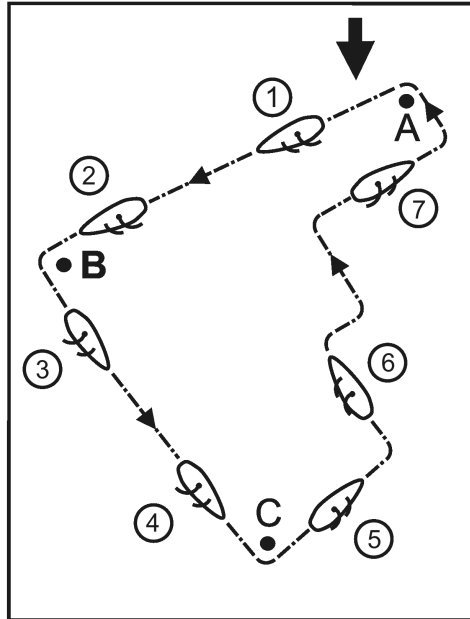

Figure 15
Figure 15 briefly explains the basics of sailing manoeuvres for a square trip in a few brief words. The information in the chapter „Angle of Attack of the Sails to the Wind“ is helpful here as well.
Start in point A at about 45° side wind (for wind direction, see arrow). The rudder is set to neutral. The angle of attack of the sails is about 20° (figure 15, item 1).
Just before you turn to the left by 90° at turning point B, you need to slowly „pull“ the sails (reduce the angle to the longitudinal direction of the boat). The rudder is still set to neutral (figure 15, item 2).
Once the longitudinal direction of the boat is aligned in the direction of point C (figure 15, item 3), set the rudder back to neutral. For best sailing performance, you can enlarge the angle of attack of the sails a little again until the next turn (open sails again).
Just before you turn to the left by 90° at turning point C, you need to slowly „pull“ the sails (reduce the angle to the longitudinal direction of the boat). The rudder is still set to neutral (figure 15, item 4).
Once the longitudinal axis of the boat is aligned (laterally offset) in the direction of point A (figure 15, item 5), set the rudder back to neutral. For best sailing performance, you can enlarge the angle of attack of the sails a little again until the next turn (open sails again). Make sure that the sails do not break in or flutter.
To return to the starting point A, you need to drive „into the wind“ at a zigzag. It is important that the sails are only opened enough not to drop or flutter (figure 15, items 6 and 7).